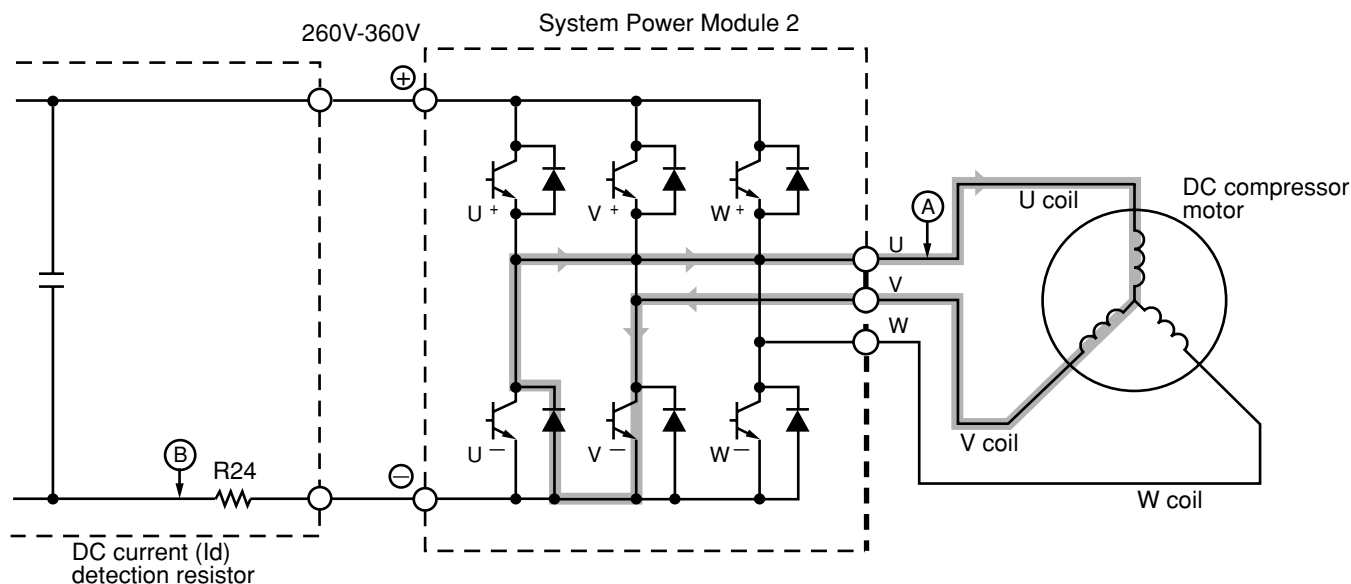

Fig. 3-4 Power module circuit (U⁺ is ON, V⁻ is ON)
- When U⁺ transistor is OFF: (by inductance of motor coil) U coil → V coil → V⁻ transistor → Return diode → Point (A) (Fig. 3-4)